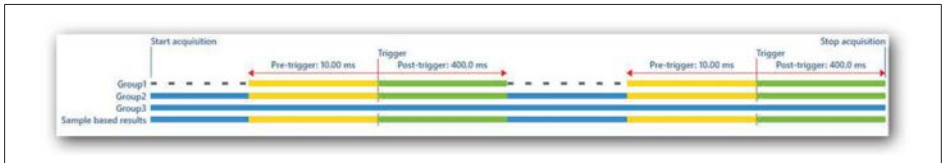

Fig. 9.32 On start of acquisition and wait for trigger to trigger memory first - diagram
- C The recording is combined with a continuous recording, everything stored in a single PNRF file (see Fig. 9.32).